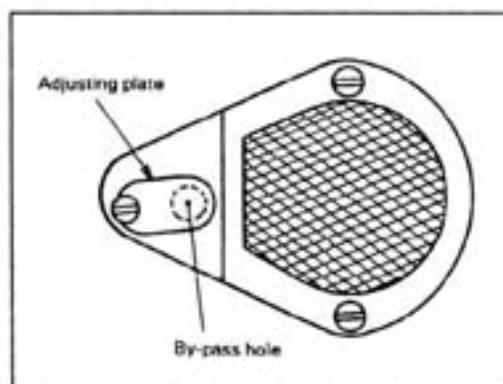

Fig.12
13. Adjustment of oil pump (图 12):